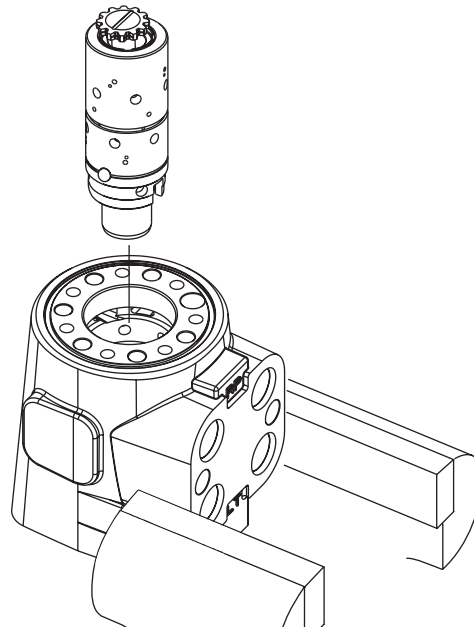

Figure 20
- Install 72,6 mm [2.86 in.] ID O-ring in housing (figure 20).